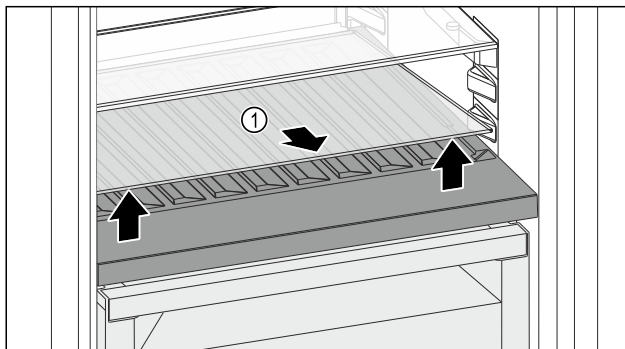

Fig. 162
- Lift the glass shelf Fig. 162 (1) at the front and remove.
- Store the glass shelf Fig. 162 (1) in a safe place outside the appliance.
- Insert the glass shelf (2) under the variable bottle rack.